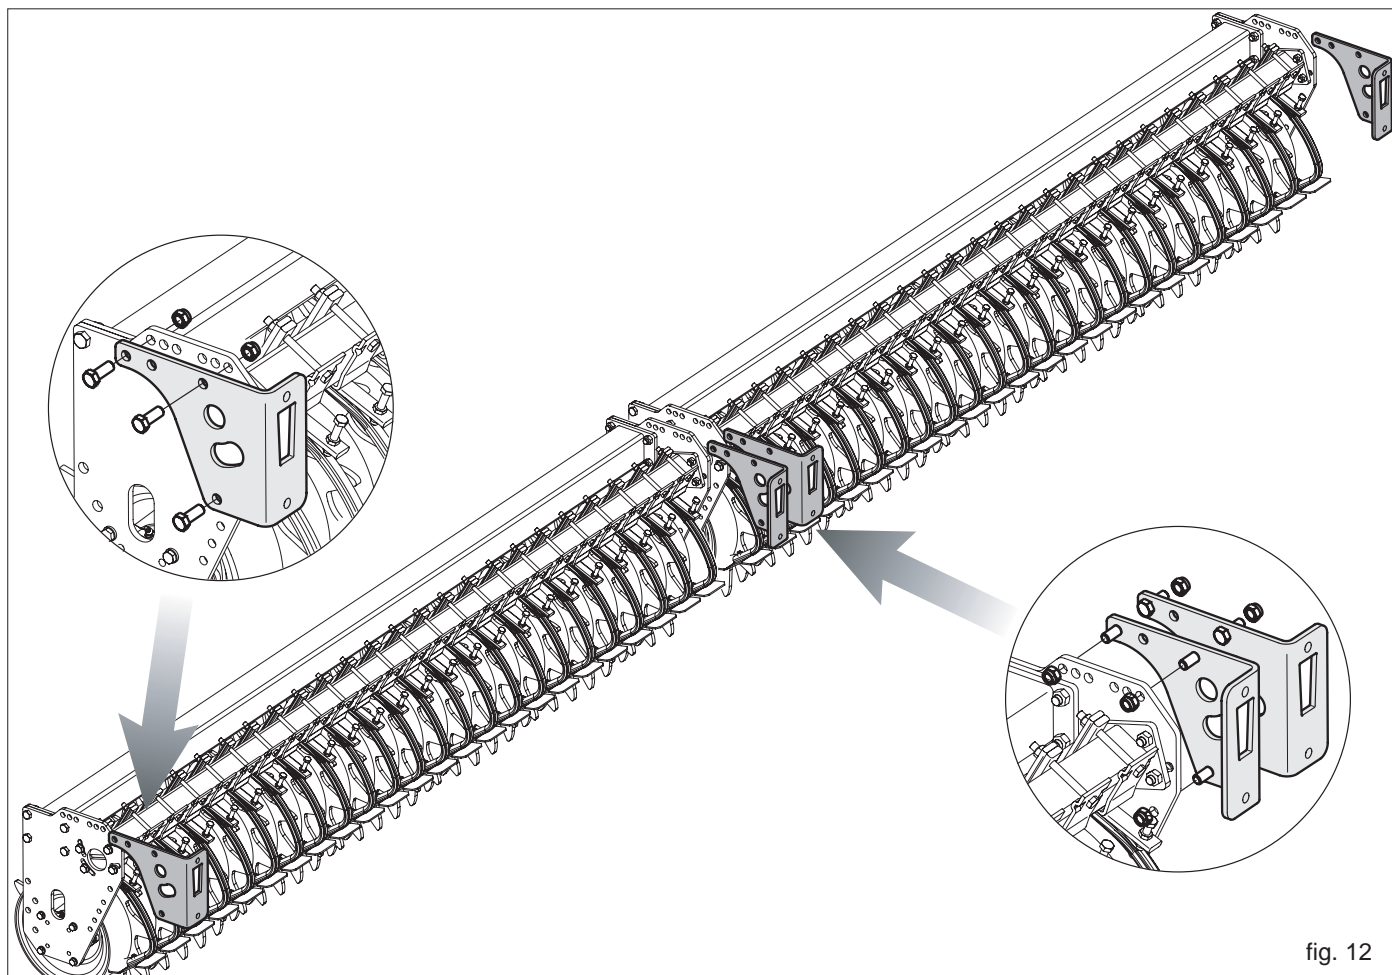

fig. 12
- 2) Mount the four supports for the seeding bar on the rear roller of the rotating harrow (Fig. 12).